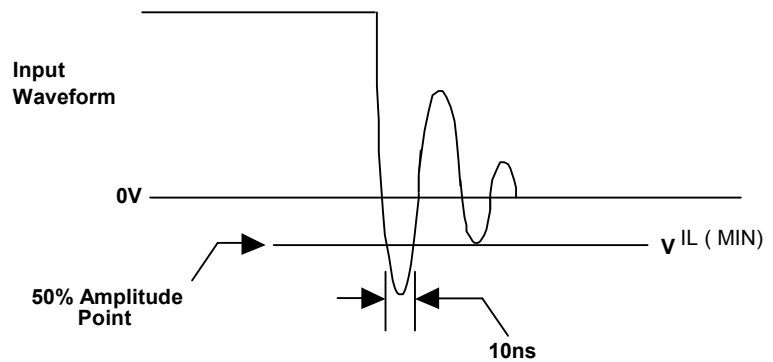

Figure 11: Input Signal Waveform
- 1.0 Volts for a duration of 10 ns measured at the 50% amplitude points for Input-only lines (see Figure 11 on page 27).
1. 1.0 Volts for a duration of 10 ns measured at the 50% amplitude points for Input-only lines (see Figure 11 on page 27).